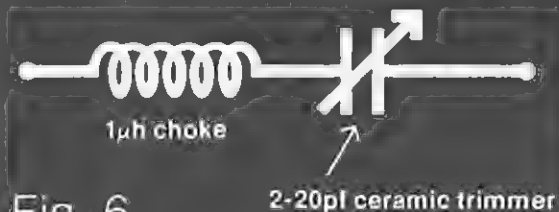

Fig. 6
1. Second harmonic interference from a GRS transmitter to Channel 2 television may exist even though the transmitter meets DOC specifications for harmonic radiation. In such cases, a tuned filter across the antenna terminals of the television should help. The filter may be an inductor and capacitor in series as in Figure 6. The filter should be tuned for minimum interference.